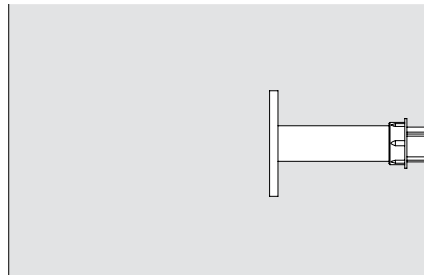

Fig. A2.04c
- Anchor Sleeve M24 (Fig. A2.04c)